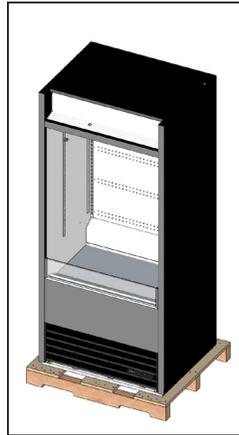

Fig. 1. Remove the outer packaging.
1. Remove the outer packaging (cardboard and bubble wrap or Styrofoam corner and clear plastic). See fig. 1. Inspect for concealed damage. **Again, immediately file a claim with the freight carrier if there is damage.**